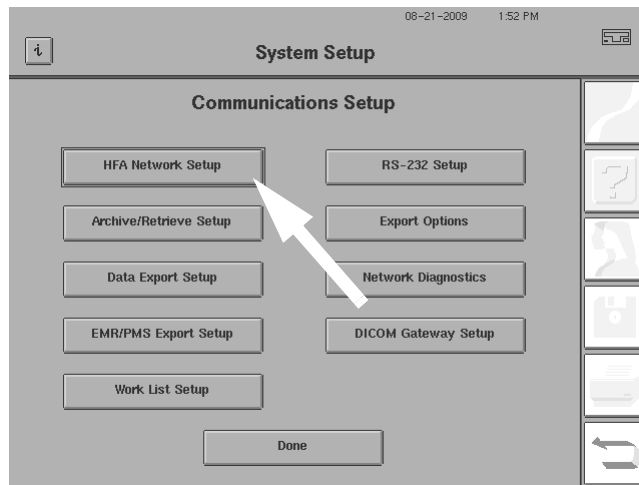

Figure I.4 Communications Setup Screen
- 3 Select HFA NETWORK SETUP on the Communications Setup menu (Figure I.4).